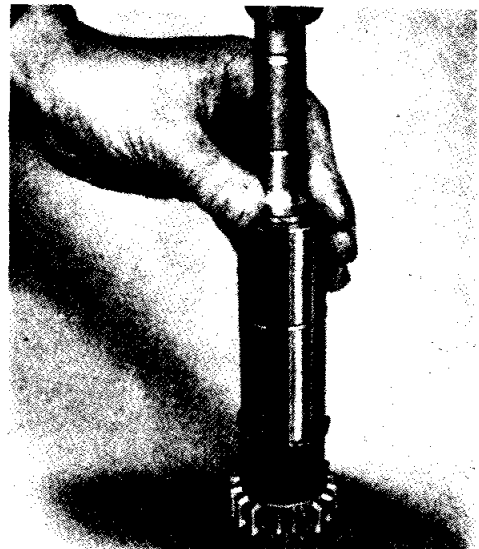

Fig. 15 Fitting Needle Roller Retainer Rings with Churchill Tool No. 20SM68.
- (b) Fit needle roller retaining rings if necessary, as shown in Fig. 15. Fit 24 needle rollers at each end of the countershaft ensuring first that the locating rings are in position. The chamfer on each retainer ring should be placed towards the bottom of the bore in the case of the inner ones, outwards for the outer ones. The rollers should